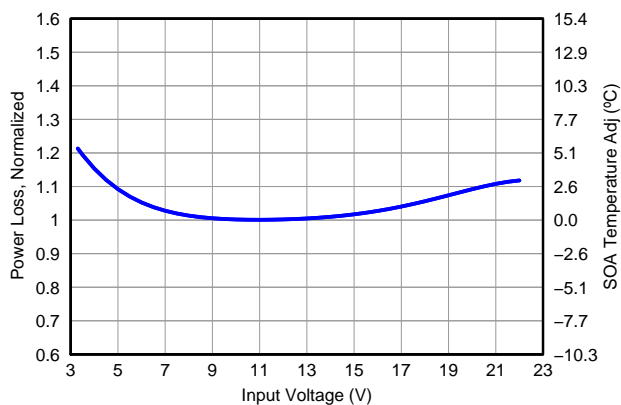

Figure 7. Normalized Power Loss vs Input Voltage
- Normalized Power Loss for input voltage ≈ 1.0 (Figure 7)
- SOA adjustment for input voltage $\approx 0^\circ\text{C}$ (Figure 7)